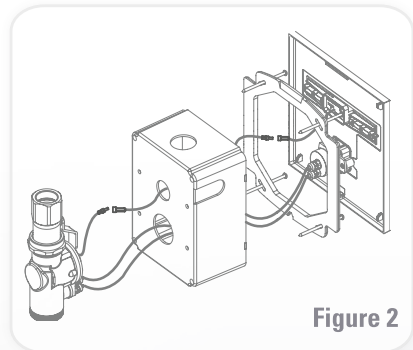

Figure 2
- 6) Place the flexible hoses coming from the flush valve inside the box. Later, they will need to be assembled to the permanent cover plate as shown at Figure 2.
- 7) Place the cables with connectors coming from the flush valve body and from the power source inside the box. Later, they will need to be assembled to the permanent cover plate as shown at Figure 2.
- 11) Connect the flexible hoses coming from the flush valve body to the rear side of the panel as shown in Figure 2.